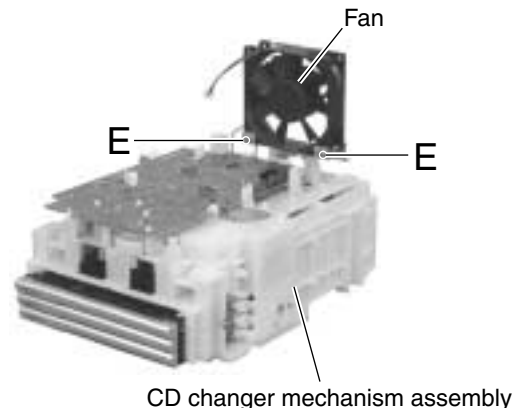

Fig.7
■ **Removing the fan (See Fig.7)**